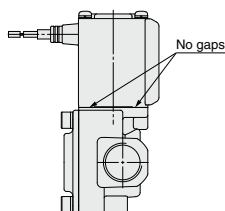

Fig. 1
- 2) Push the coil assembly against the body and tighten the screws two or more rounds diagonally (Fig. 2) in the status that there are no gaps between the coil assembly and body (Fig. 1).
\* After tightening the screws, make sure that there are no gaps between the coil and body (Fig. 1).